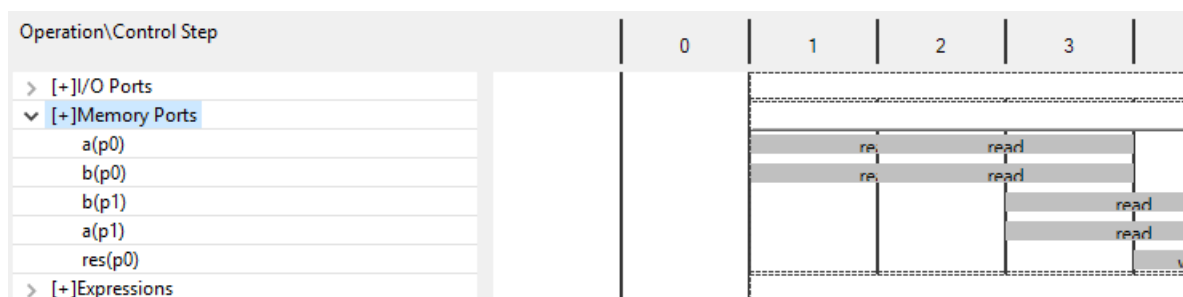

Figure 7-11: Matrixmul Pipeline Col Resource View
10. Expand the **Memory Ports** to see the view shown in Figure 7-11.
In Figure 7-11 the 2-cycle read operations in state C1 overlap with those starting in state C2 and so only a single cycle is visible: however, it is clear that this resource is used in multiple states.